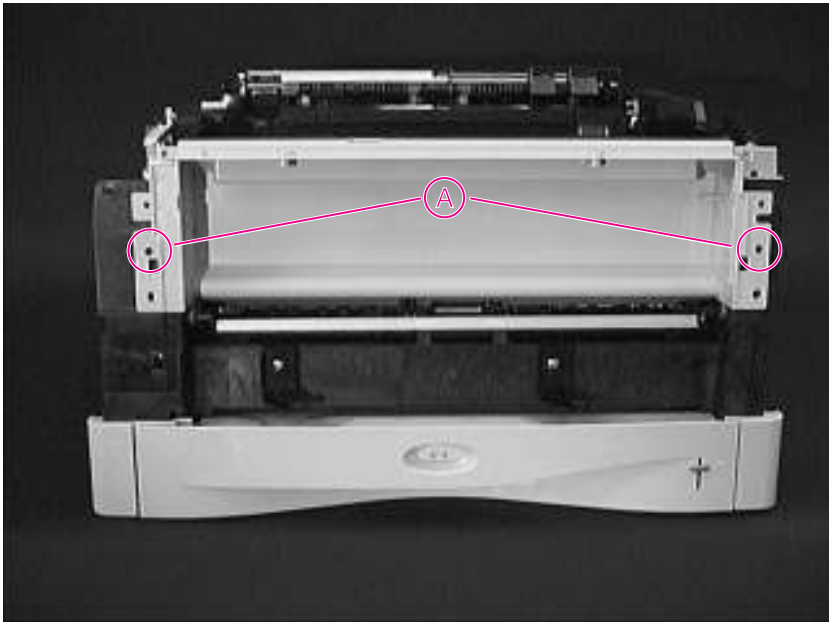

Figure 6-17 Tray 1 Inner Cover (front of printer)
- 2 The Tray 1 Inner Cover is a plastic tray located at the top front of the printer. Remove the two self-tapping screws, (A) in Figure 6-17, holding the Cover to the front of the chassis.